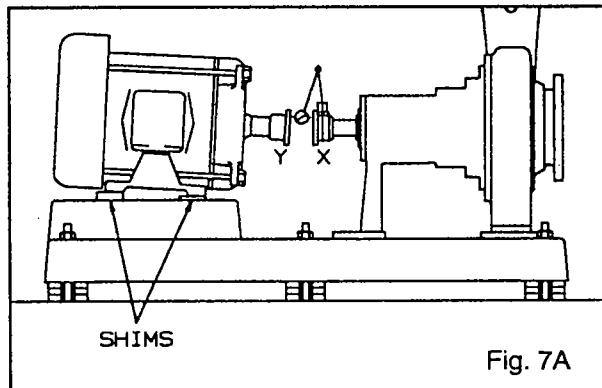

Fig. 7A
3. **Negative Reading** - The coupling halves are further apart at the bottom than at the top. Correct by either raising the driver feet at the shaft end (add shims) or lowering the driver feet at the other end (remove shims), (Fig. 7A).